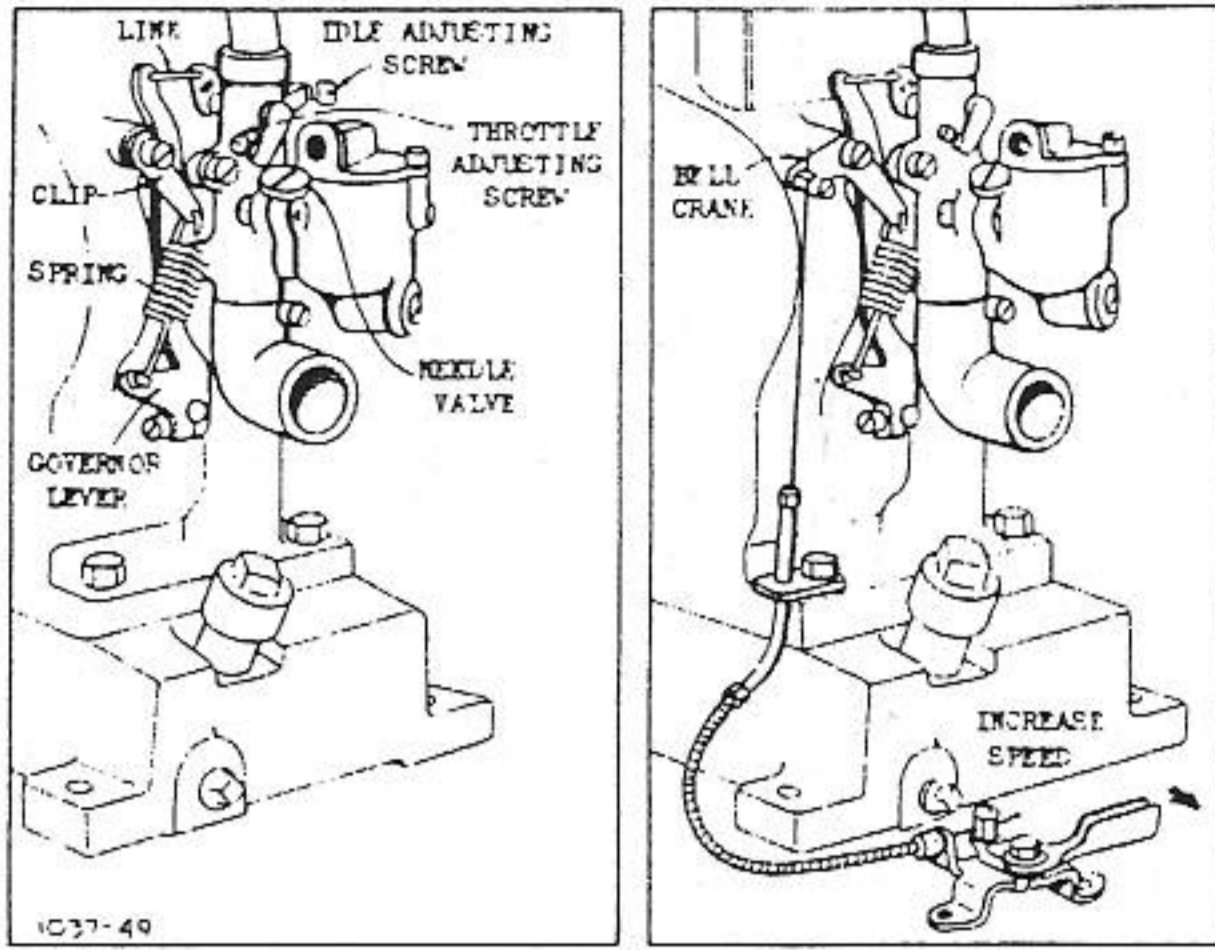

Fig. 70—Models A-FJ-M-T 5 Digit
The various remote controls for each model are shown in Fig. 70 to 108 and should be assembled as shown. In general, there are two types of remote controls. (1) Governor Control and (2) Throttle Control.
Fig. 70 to 108 show governor linkage and remote control hook-up for the various engine models.